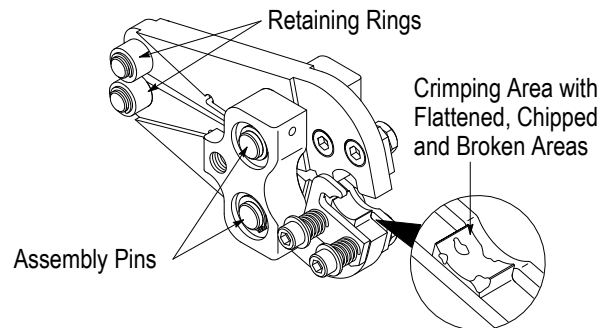

Figure 8
3. Inspect the crimping area for flattened, chipped, or broken areas (see Figure 8). Replace worn or damaged parts.